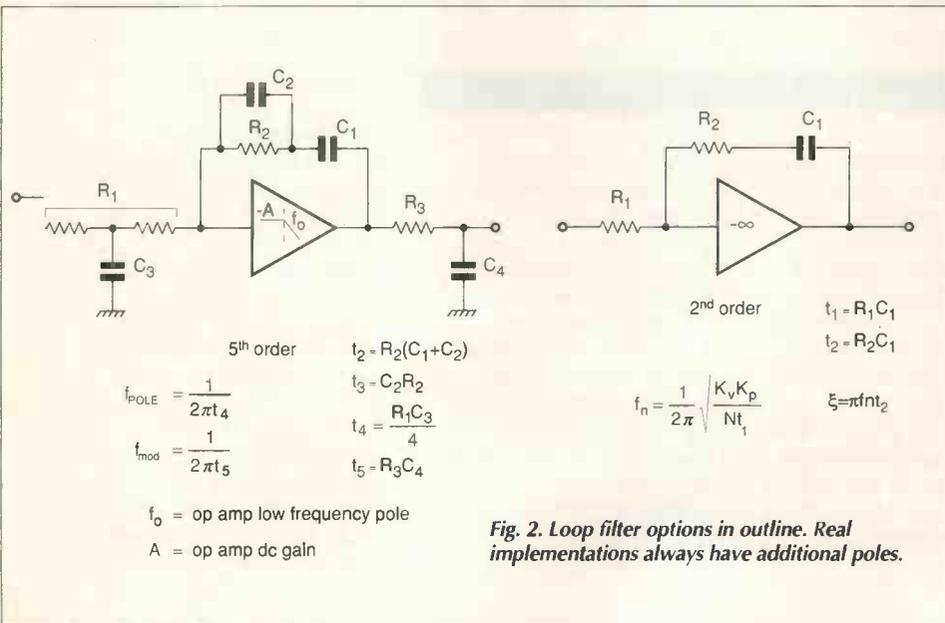

Fig. 2. Loop filter options in outline. Real implementations always have additional poles.
The natural loop frequency – and damping factor – may be calculated from the component values used in the type 2, second-order loop filter. The circuit and equations are given in Fig. 2. Real implementations, however, always have additional poles, and the simplest way to find the natural loop frequency, and also the phase and gain margins, is to plot the closed loop gain and phase. This is easy with tools such as *MathCad*.
Component values in Fig. 2 for the fifth-order loop are entered. The loop divider (N), phase detector constant (K_p), and vco gain constant (K_v) are also entered. The document then plots graphs of closed loop gain and phase, forward gain, reduction of vco phase noise, and loop filter response. This enables estimates of natural loop frequency, loop stability, reference frequency suppression, and vco phase noise to be made.
Left, simulation of the fractional-N loop with analogue correction. Right, a simple way to display the natural loop frequency. Component values in Fig. 2 for the fifth loop are entered as well as values for the loop divider (N), phase detector constant (K_p), and vco gain constant (K_v). The MathCad document shows plotted graphs of closed loop gain and phase, forward gain, reduction of vco phase noise and loop filter response.